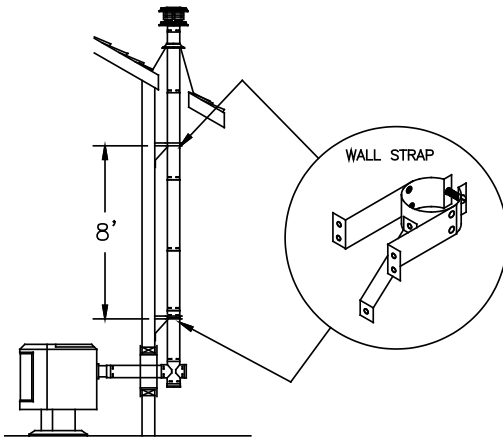
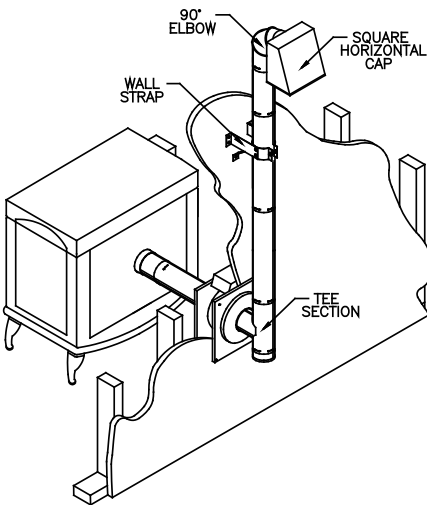

Figure 15
Figure 16
D. Attach Wall Strap just above the tee. Wall Straps must be placed every 8-feet along an exterior vertical run (*Figure 15*). If your exterior vertical run terminates horizontally before penetrating the roofline, install at least one Wall Strap on the Pipe Section before 90 Degree Elbow and Horizontal Cap (*Figure 16*). Under no circumstances can a Vertical Cap be installed adjacent to vertical wall. PelletVent Pro offers fixed and Adjustable Wall Straps to maintain a 1"-3" clearance, as desired. If Assemble Pipe Sections in the same manner described in Step 2 of the general instructions.